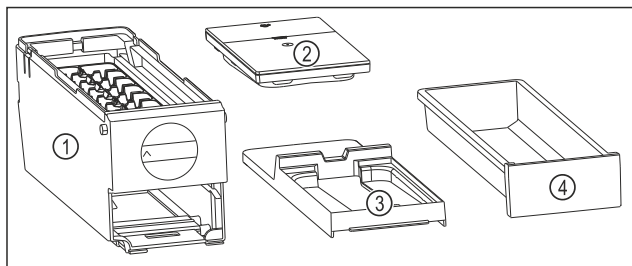

Fig. 145 Components of the EasyTwist-Ice
- EasyTwist-Ice is dismantled into four parts. (see Fig. 145)
- ▶ Only dismantle the EasyTwist-Ice into the components shown. (see Fig. 145)
- ▶ Clean the EasyTwist-Ice body Fig. 145 (1) as a whole.